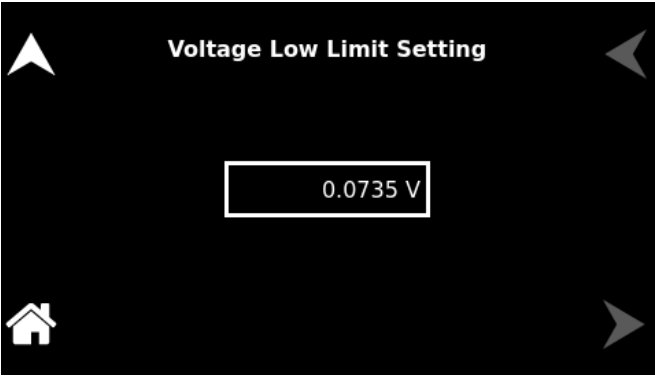

Figure 10-32. Voltage Low Limit Setting
**Voltage Low Limit** Users can set the voltage low limit value, and it regulates the output upon reaching the Voltage Low Limit. Refer to Figure 10-32.